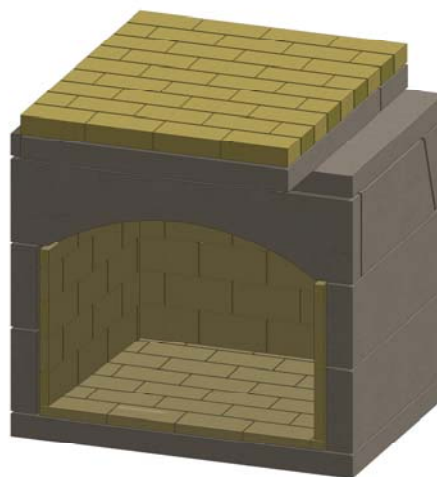

Figure 21. Oven Firebrick Floor
O. Install the oven's firebrick floor, extending the brick to the edges of the base plate and extension, as shown. Lay the firebrick from the front, and work to the back edge, as the last course of brick may need to be trimmed to fit. See Figure 21.